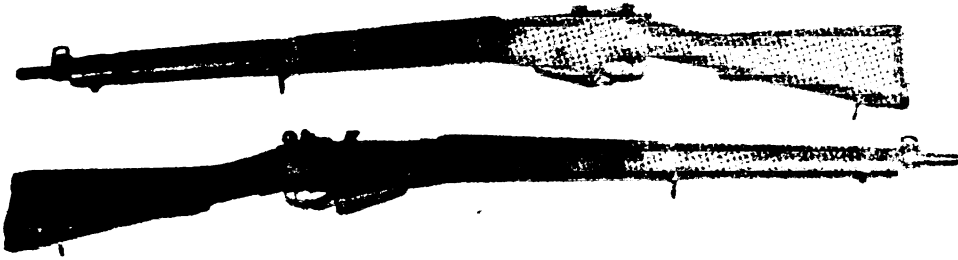

Figure 9
9. Identify the .303 (fig. 9).